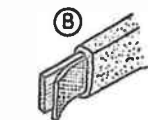

Fig. 2
For these strips cut four of 1/2 in. wood, 1/2 in. wide, and long enough to reach the length or width of the table. These are covered one side with strips of rubber, such as can be cut from an old motor car tube. Roughen one side of each rubber strip slightly with glasspaper and stick to the wood with glue. Cover each strip with some not too thick material, all over, back and front as shown in detail (B) in Fig. 2. Quite a suitable material would be fine cloth or green linen. It should be stretched tightly over, and either glued to the back of the wood strips or secured with zigzag stitches.
Now fix the cushioning strips all round with glue, as in the sectional detail (A) in Fig. 2. For the middle barrier, already referred to, cut a 1/2 in. by 1/2 in. wide strip of wood to length given at (C) in Fig. 3. To the bottom edges of this, drive in a couple of nails, leaving about 1/2 in. of each nail sticking out below. File off the heads, and the remaining pins, as we may call them will act as dowels to help fit the barrier in place on the table, a corresponding pair of suitable holes being bored through the table top for that purpose.